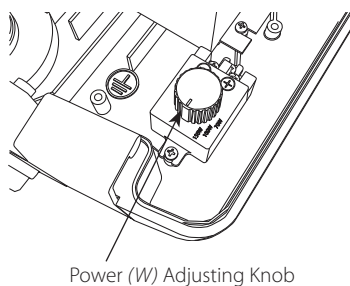

FIG. 7
2. Locate **Power (W) Adjusting Knob** as shown in Fig. 7.
3. Select **Power (W)** setting by turning the respective switch to the desired value as shown in Fig. 7.
4. Close the **Driver Cover Box** and secure with **Screws (2)** and close **Latches (2)**.